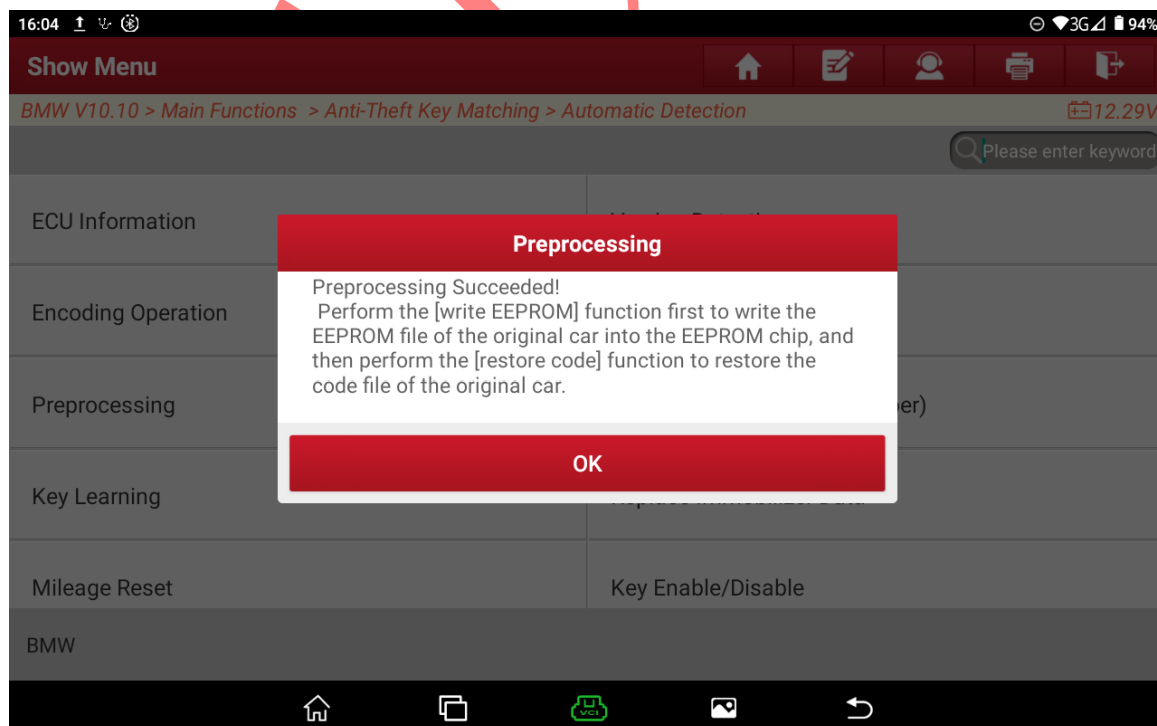

Figure 26
26. After successful preprocessing, it is necessary to restore the original vehicle EEPROM and then perform the code restoration function. Click “OK”, as shown in Figure 26.